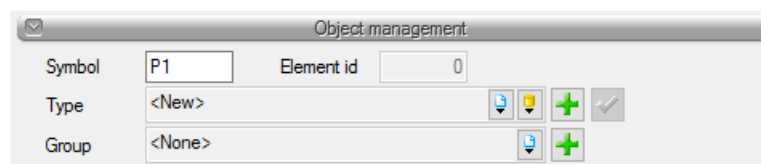

Fig. 20. Type insertion from the level of item properties and in the modification and insertion windows:
**Project library** – where all the element types used or available for use in the project are listed. A type for an element can be selected from the Element properties window (Fig. 20, Fig. 21):